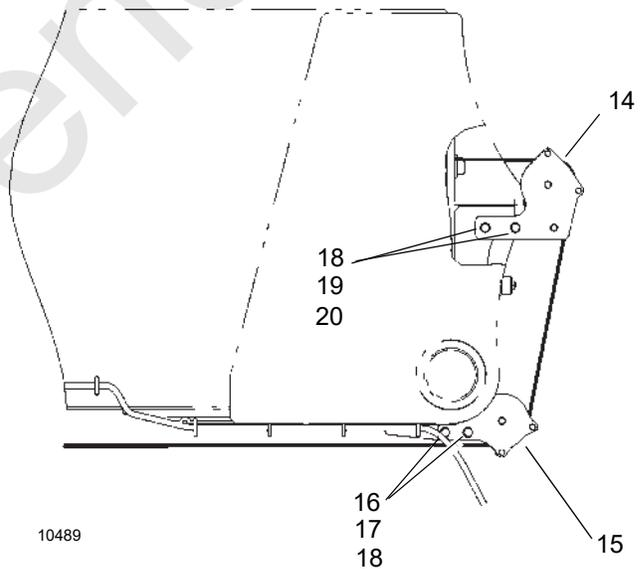

FIGURE 4-2
The RCL cable reel (1, Figure 4-2) is located on the left side of the boom. The reel cable (2) connects the reel to the A2B switch at the end of the boom. The cable is routed through
8. Remove the top turnaround sheave (14, Figure 4-2) at the rear of the boom.
9. Remove the lower rear turnaround sheave (15) from the rear of the boom.
10. Remove the front turnaround sheave (5).
11. Disconnect the CAN Bus cable (3) from the cable reel.
12. Remove the clamps (6) that secure the CAN Bus cable to the reel bracket (7).
13. Remove cap screws (8), washers (9), and the RCL cable reel assembly (1).
1. Install the RCL cable reel (1, Figure 4-2) to the boom using capscrews (8) and washers (9).
2. Connect the RCL CAN Bus connector (3) to the cable reel assembly (1).
3. Secure the RCL CAN Bus cable to the reel bracket using clamps (6), capscrews (10), and washers (11).
4. Install front turnaround sheave (5) using washers (12), lockwashers (13), and capscrews (4).
5. Install lower rear turnaround sheave (15) on the rear of the boom using capscrews (16), lockwashers (17), and nuts (18).
6. Install the upper rear turnaround sheave (14) on the rear of the boom using washers (19), capscrews (20), and nuts (18).
7. Reeve the reel cable through sheaves (5, 14, and 15) and roller (4) to the rear of the boom.